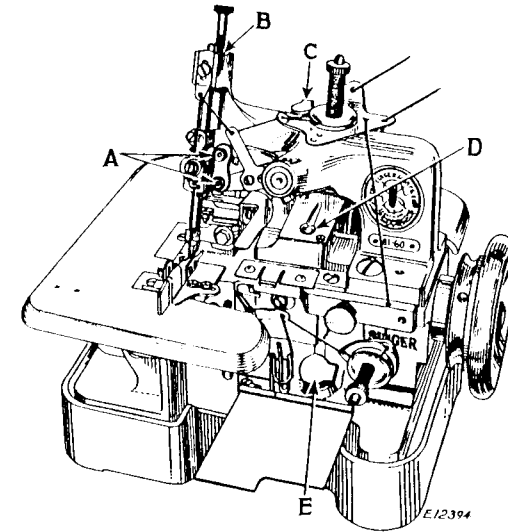
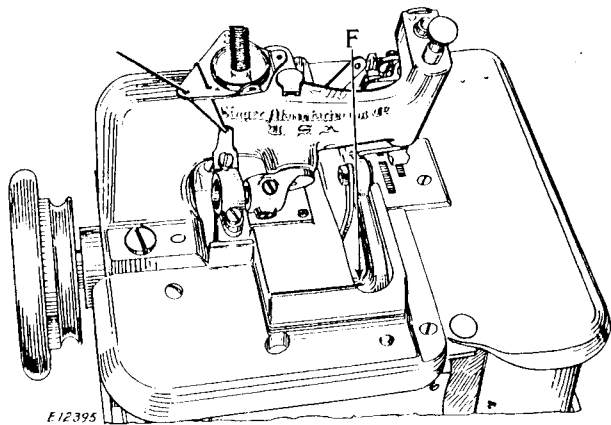

Fig. 4. Front View, Showing Oiling Points
Fig. 5. Rear View, Showing Oiling Point
"STAINLESS OIL FOR HIGH SPEED SEWING MACHINES", where a stainless oil is desired, to the oil hole (D, Fig. 4) and oil cup (E, Fig. 4) until the reservoirs are full. Fill the oil cup (C) at the top of the machine and thoroughly saturate the wick through the hole (B) in the casting near the top of the needle bar. Then oil the needle bar link connection (A) at the front of the machine. Also apply oil to the presser lever bearings (F, Fig. 5) at the back of the machine.